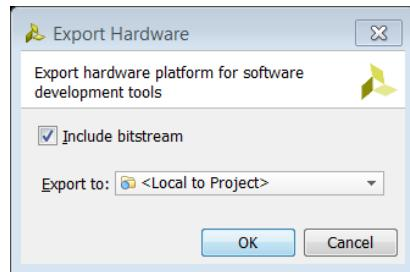

Figure 32: Export Hardware for SDK
2. Ensure that the **Include Bitstream** check box is checked and that the **Export to field** is set to the default option of <Local to Project> as shown in Figure 32.